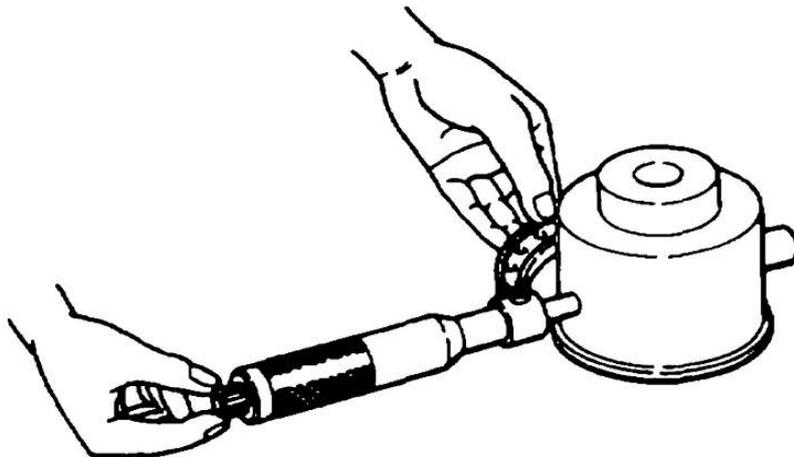

Figure 33 Measuring the Idle Gear Shaft
- y. Measure the diameter of the idle gear shaft with a micrometer (Figure 33). The standard dimension is 44.84 to 44.97 mm (1.765 to 1.770 in). Replace the idle gear shaft if the wear exceeds the limit.